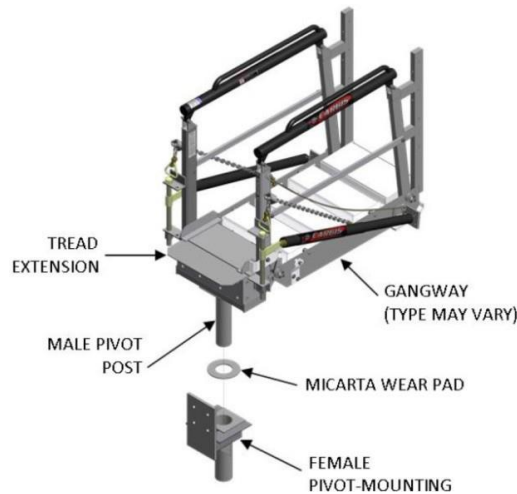

Figure 7-4
g) PIVOT MOUNT OPTION (SEE FIGURE 7-4)